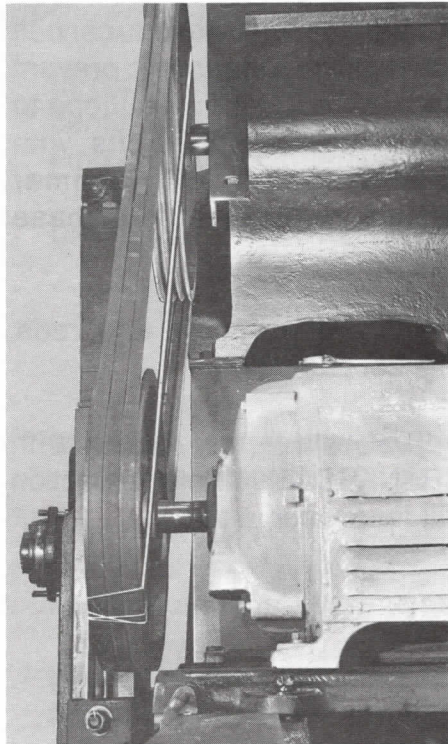

Fig. 7
11. Install V-belts on reducer and prime mover sheaves and check alignment with a string line or straight edge. Align prime mover until string touches each side of reducer and prime mover sheaves. These four points of contact should be in a straight line to insure proper alignment, Fig. 7.